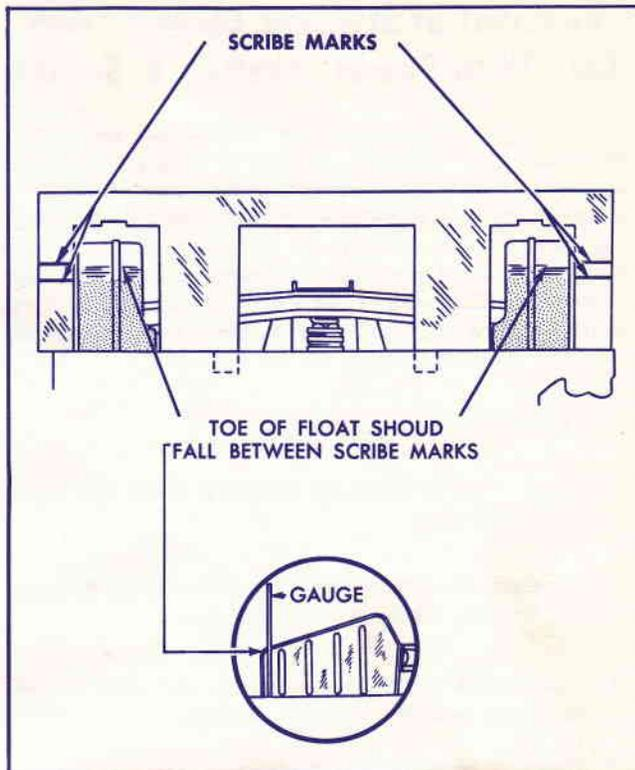

Fig. 4 Rochester Float Adjustment
5. With air horn inverted lower tip of float should clear air horn casting by $\frac{1}{8}'' \pm \frac{1}{16}''$. (With gauge in position the scribe marks on face of gauge show required height of float toe necessary to ensure this clearance; see Fig. 4).